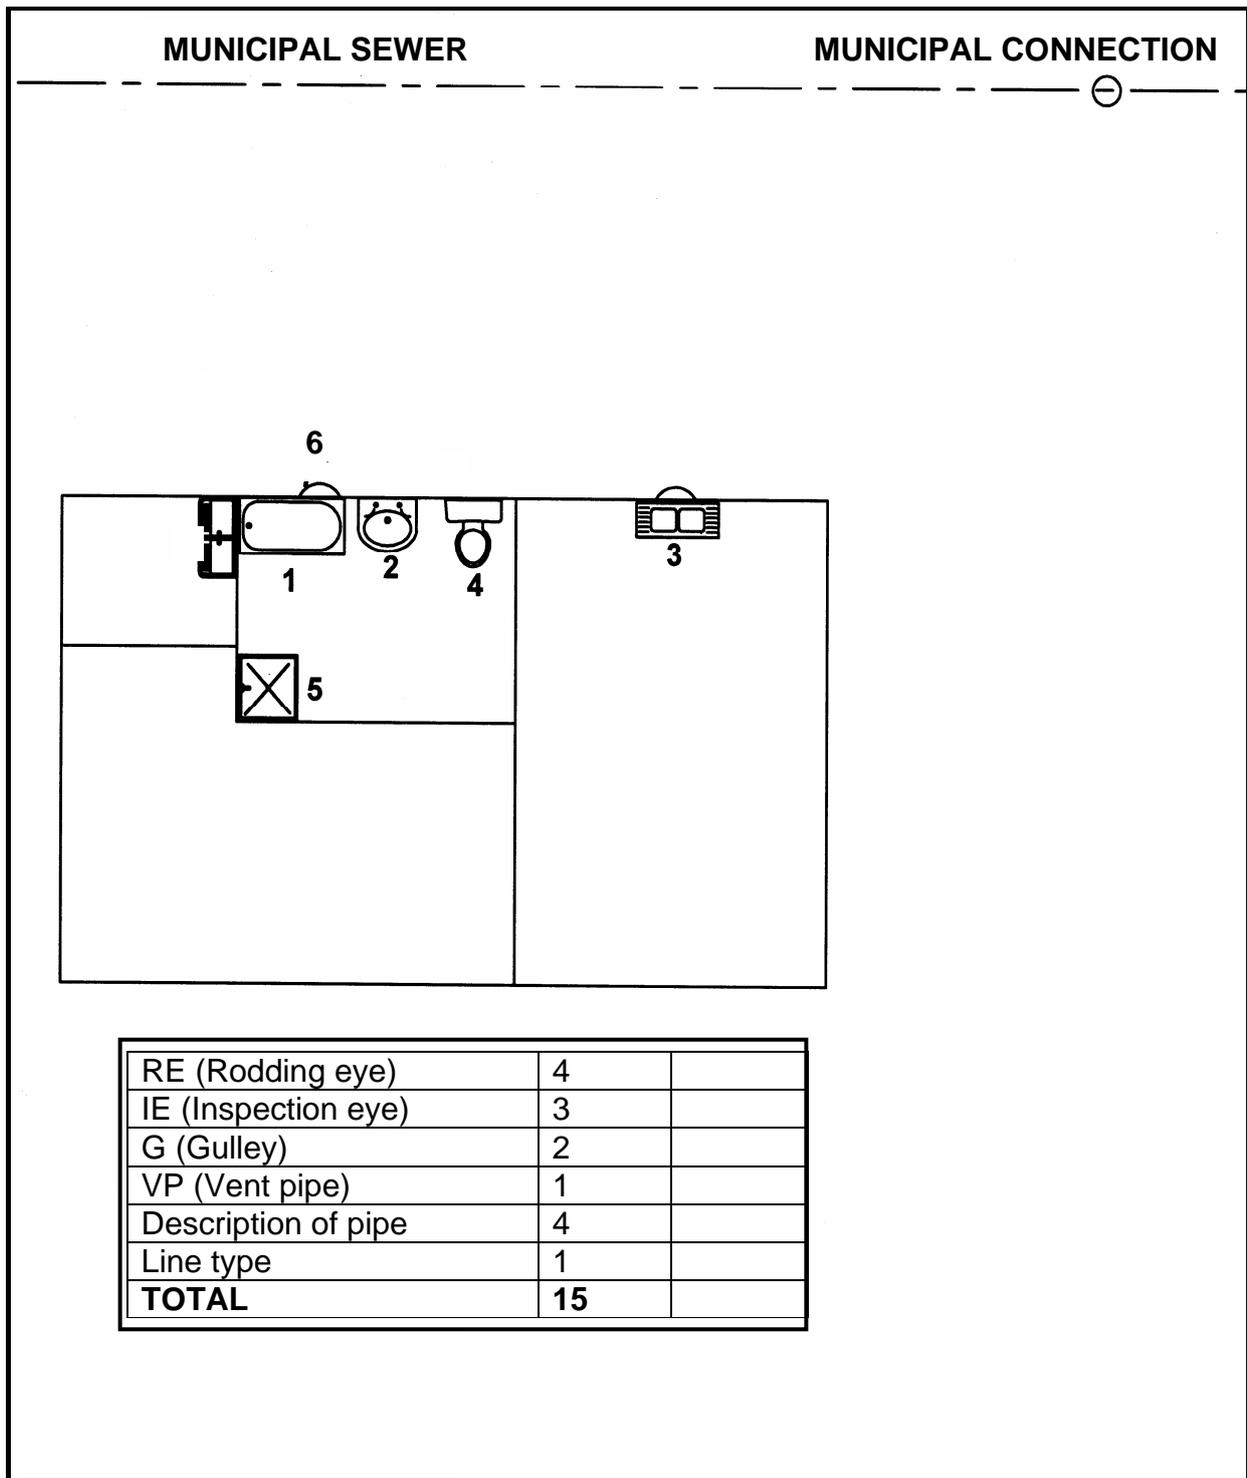

FIGURE 3.1
- 3.1 FIGURE 3.1 on ANSWER SHEET 3.1 shows the floor plan of a dwelling that is to be erected on a new stand. Refer to the figure and answer the questions that follow.